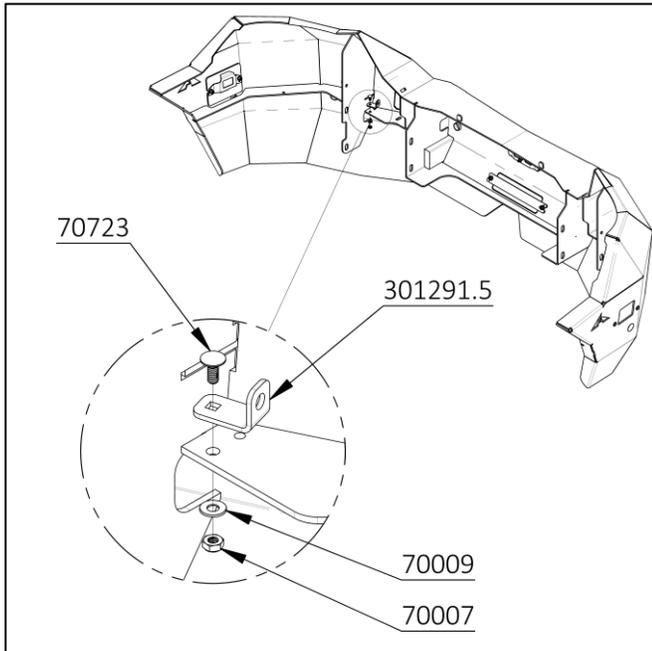

Figure 20: Air Temperature Sensor Install (1/4" Fasteners)
27.  Install the AIR TEMPERATURE SENSOR BRACKET [301291.5] into the light housing on the left side of the bumper using a 1/4-20 X 5/8 carriage bolt, washer, and locknut. **See Figure 20.**